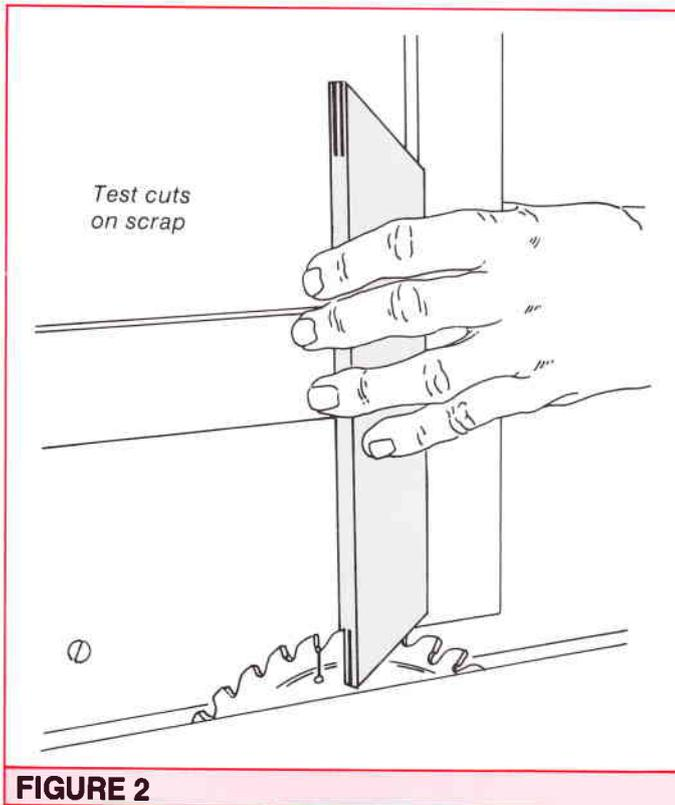

FIGURE 2
With blade height of 25mm and fence 3mm from the blade, use an end grain jig to cut two slots in each end of **N** (4) and **O** (4). (Alternate faces to fence). **Figure 2**.